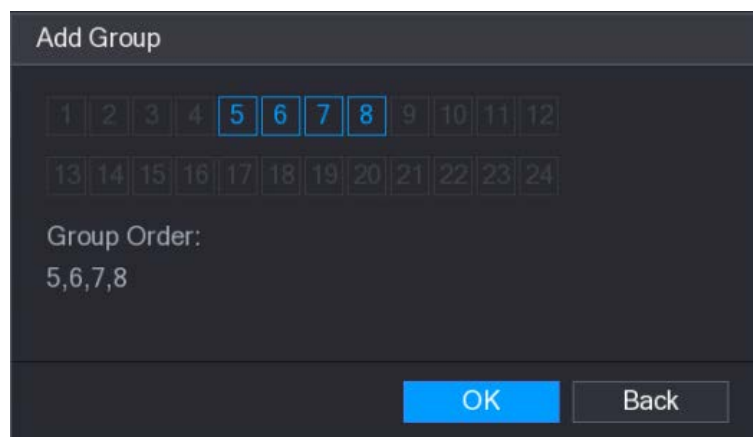

Figure 5-50
Step 2 Select the channels that you want to group for tour. See Figure 5-50.